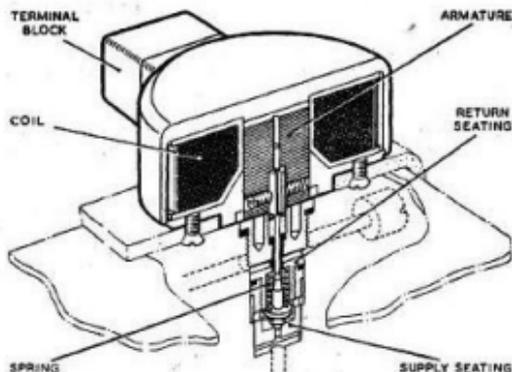

Fig. 4. Solenoid assembly, Type D238Y
10. This solenoid assembly (fig. 4), which is incorporated in the wing folding control unit, Type C717Y, operates on a similar principle to the one fitted to the solenoid control valve assembly, Type C2270Y, though it is of a different design. Three of these solenoid assemblies are fitted to the control unit, Type C717Y.
11. The solenoid assembly, which is shown with heavy lines in fig. 4, comprises a coil, and an armature secured by a grub screw to the stem of a normally-closed, double-ended pilot valve in the control unit. When the coil is energized, the armature moves upward to open the pilot valve, which will remain open for as long as the coil is energized.